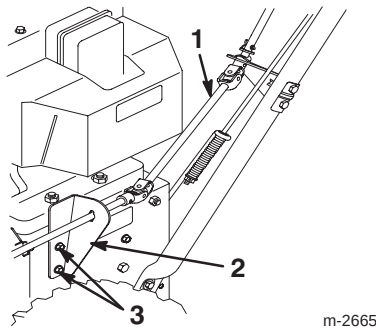

Figure 14
1. Remove the two screws from the chute control rod bracket on left side of the frame (Fig. 14).
- Install the bracket with the two screws (Fig. 14).